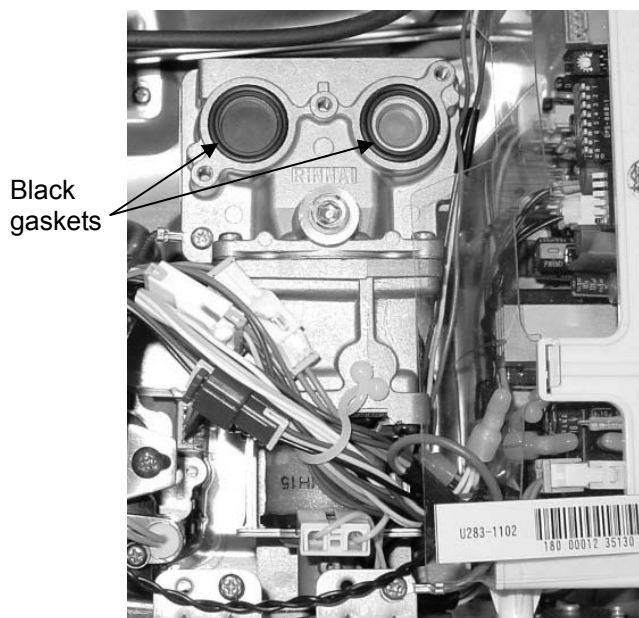

Figure 6
24. Make sure that the black gaskets (Figure 6) are intact on the gas control assembly. Make sure that the ribbed side faces toward the manifold and that the flat side faces toward the gas valve.
18. Remove the wire harness attachments - sensors, heating elements, fusible link brackets. Ensure that the small O-ring in the thermistor is removed. (Figure 6)